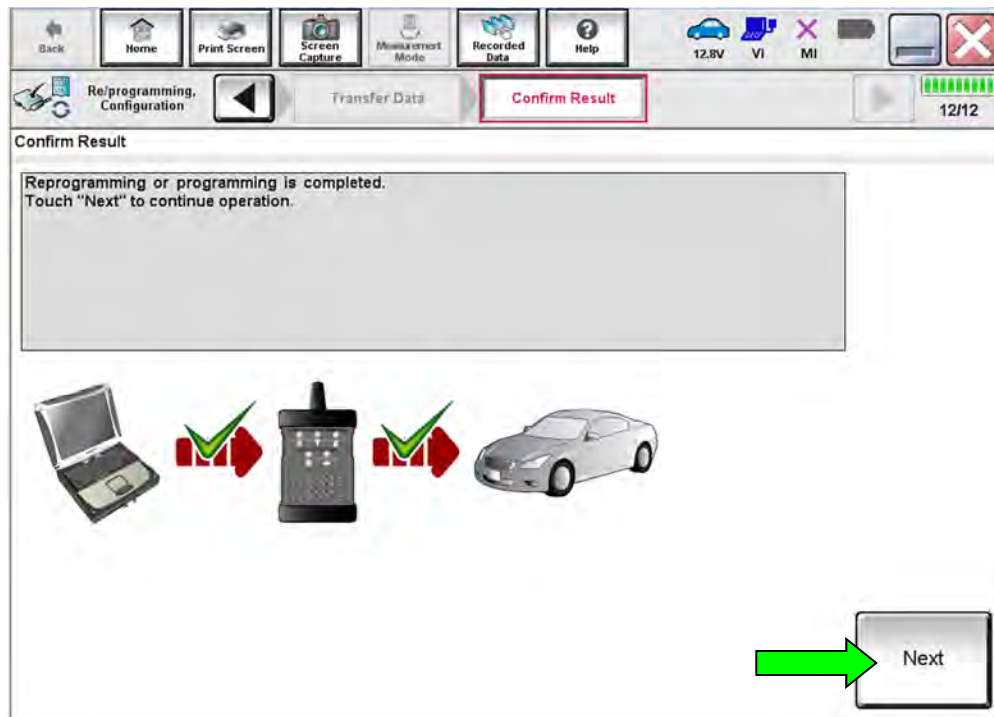

Figure 29
47. When the screen in Figure 29 displays, reprogramming is complete.
HINT: If the screen in Figure 29 does not display (indicating that reprogramming did not complete), refer to ICC/ADAS Control Unit Recovery on the next page.